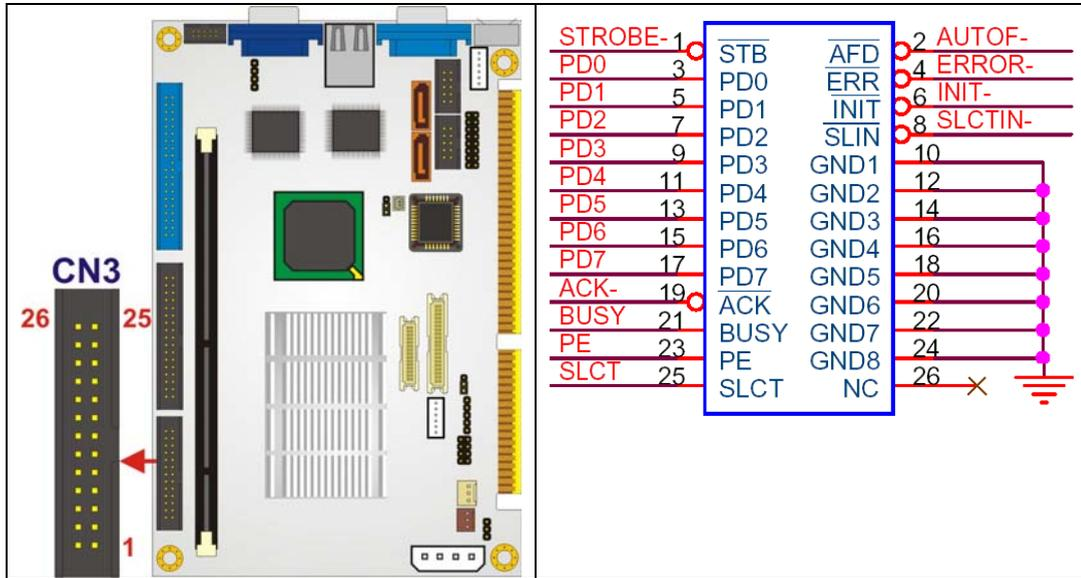

Figure 4-18: Parallel Port Connector Location
- CN Location:** See Figure 4-18